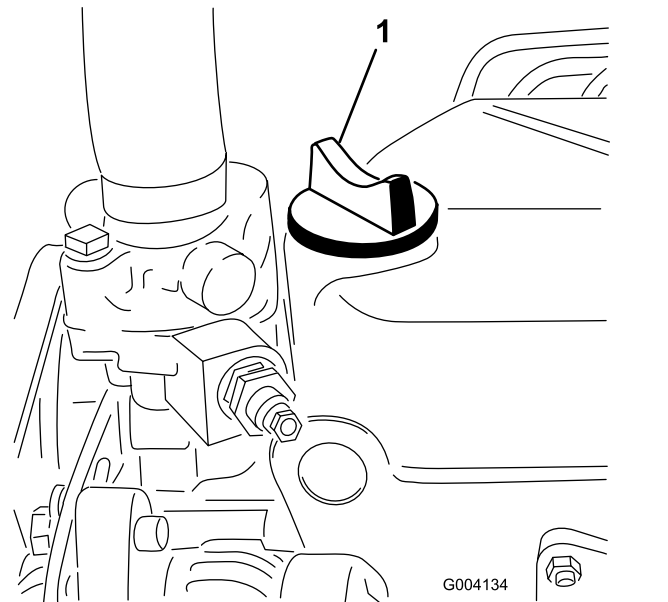

Figure 21
5. If the oil level is below the Full mark, remove the fill cap (Figure 21) and add oil until the level reaches the FULL mark on dipstick. **Do not overfill.**